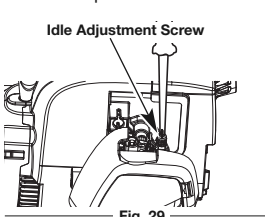

Fig. 29
The idle speed of the engine is adjustable. An idle adjustment screw is between the air filter cover and the engine starter housing (Fig. 29).
2. Release the throttle trigger and let the engine idle. If the engine stops, insert a small phillips screwdriver into the idle adjustment screw (Fig. 29). Turn the idle speed screw **clockwise** 1/8 of a turn at a time (as needed) until the engine idles smoothly.